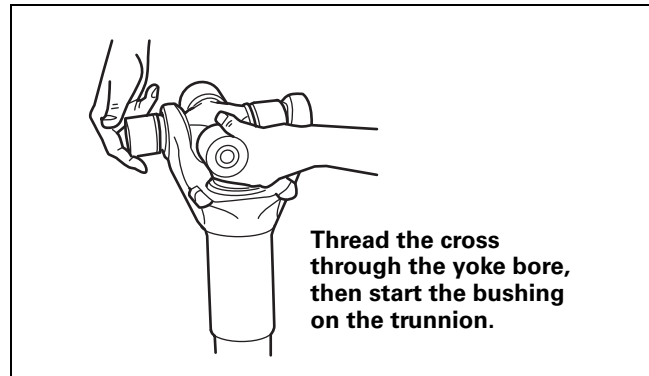

Figure 8.24
2. Position the first bushing onto the trunnion by threading the cross trunnion through the yoke bore. Figure 8.24.